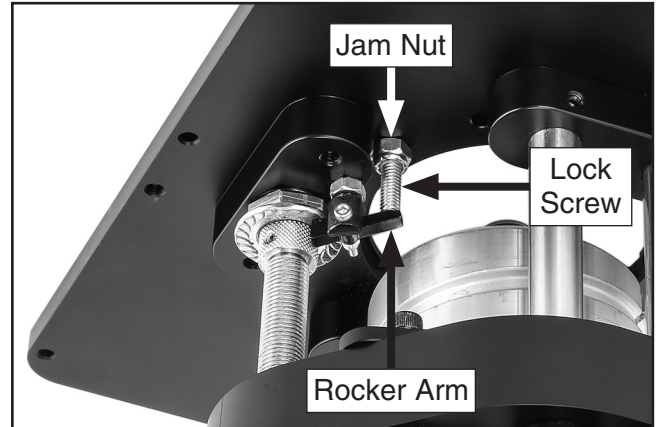

Figure 49. Location of lock screw components.
5. Underneath mounting plate, tighten lock screw jam nut (see **Figure 49**) against plate to secure position.